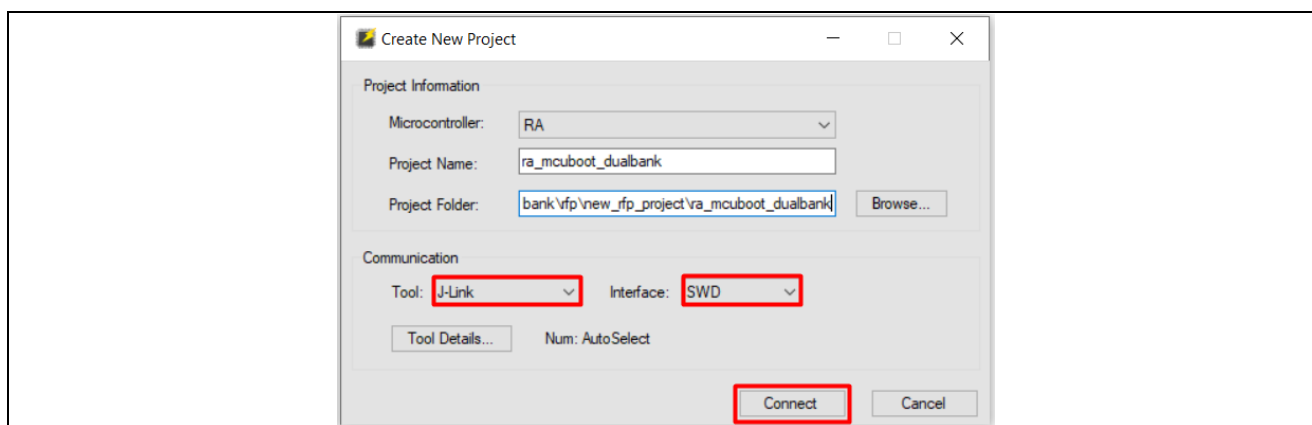

Figure 91. Configure the New Project
- To create a new RFP project, users can refer to Figure 90 and Figure 91 in section 7.2.